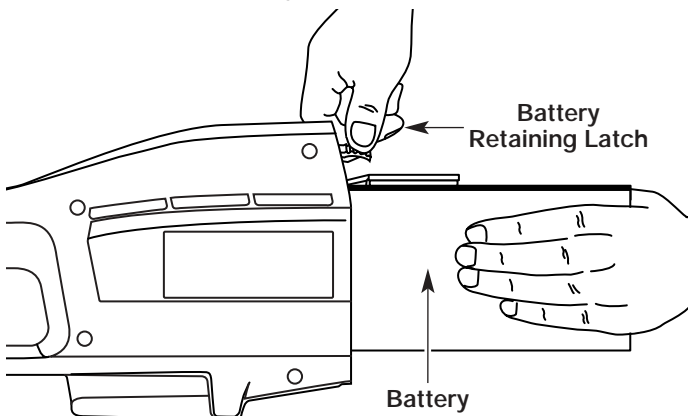

Fig. 18
2. Push down on the battery retaining latch while pulling battery out (Fig. 18).
1. Slide the battery into the battery housing until the battery retaining latch locks the battery into place (Fig. 18).